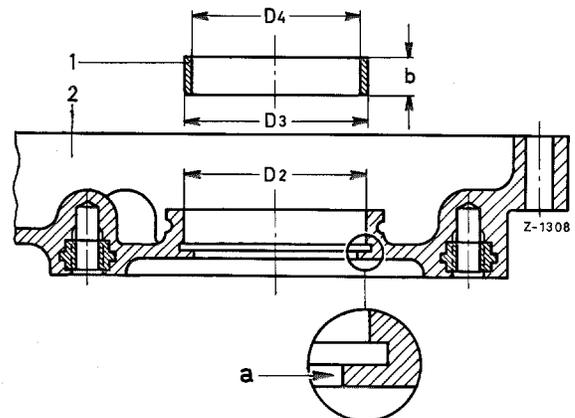

Figure 01-16/2
5. Measure the bore (D₁) provided to support the injection pump drive. This is especially important on the 1st version of the timing housing cover, which, opposite to the 2nd version, has no cast-in steel bushing (see Figure 01-16/1 and 01-16/3).